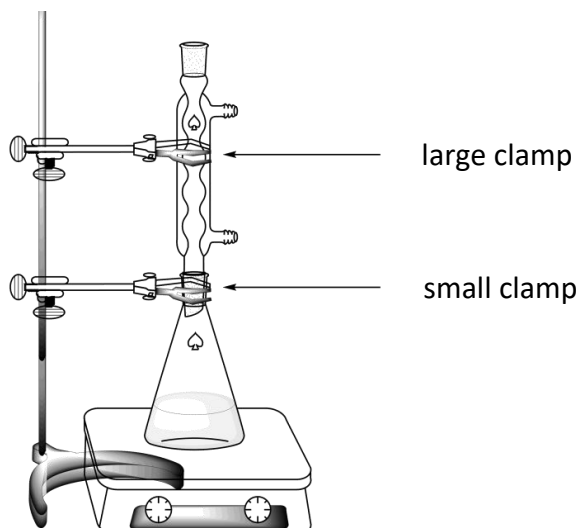

Figure 1. Setup for heating the reaction mixture under reflux
- According to figure 1, **Attach** the reflux condenser by loosening the large clamp and adjusting the ground joints (חברו בעדינות את התופסן הגדול על המעבה). **Raise** your HELP card. A lab assistant will come to turn on the water and set the hotplate (כדי למנוע אסון בניסויי שלכם או של השבן (שלכם)).
2. **Perform** the recrystallization of the crude product contained in the 50 mL ground-joint Erlenmeyer flask using the appropriate amount of the crystallization solvent (עם כמות מתאימה), using the same setup as for the reflux heating (see Figure 1): **Raise** your HELP card. A lab assistant will come to turn on the water and set the hotplate. **Add** the solvent from the top of the condenser.